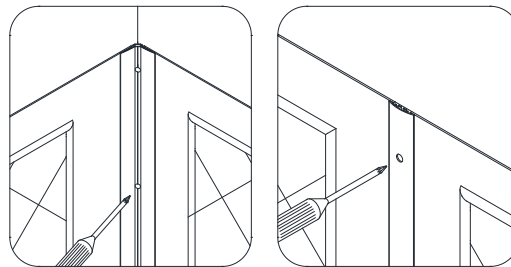

Fig 22
22. Tighten the screws for the **Corner Covers (#04)** and the **Center Cover (#05)** to secure the **Side Panels (#01)** and the **Back Panels (#02)** in place. **(Fig 22)**